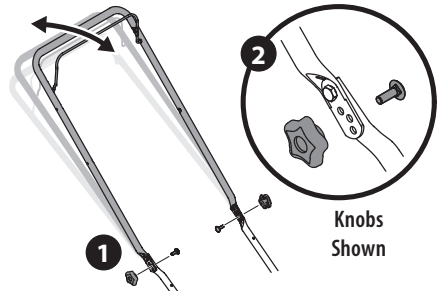

Figure 17
1. Remove two knobs or wing nuts and carriage bolts from handle (Figure 17).
2. Position the handle in one of the three positions that is most comfortable (Figure 17, inset).